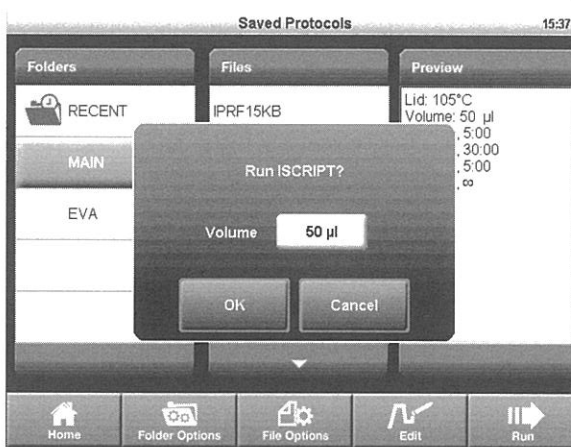

Figure 16. The run confirmation window.
4. Touch **Run**. The instrument confirms the run and the sample volume (Figure 16).